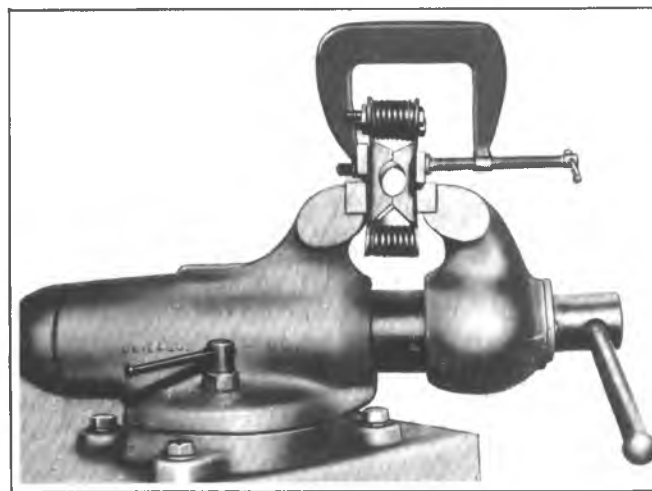

Fig. 6D-Removing Preload Springs from Pack
5. Position spring pack in vise and remove 1/4 inch bolts. Alternately relieve "C" clamp pressure and vise pressure until spring compression is relieved. See figure 6D.